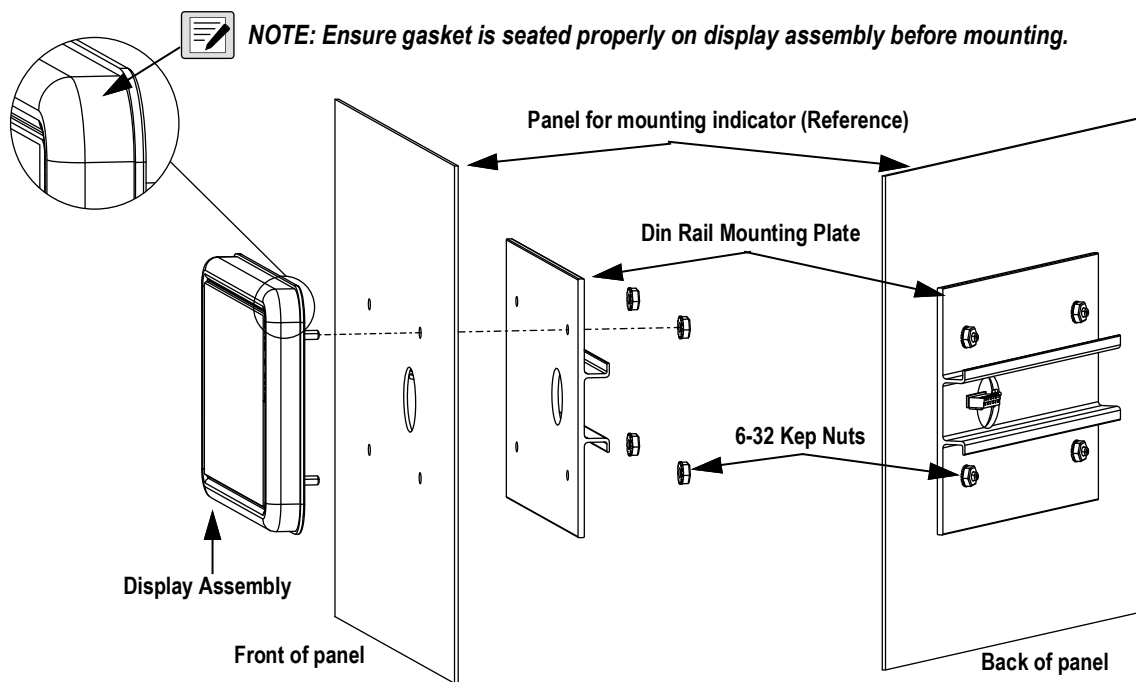

Figure 2-3. Mounting Display Assembly
3. Loosen and remove the four keps nuts securing the DIN rail and display assembly to the panel, see Figure 2-3 on page 20.